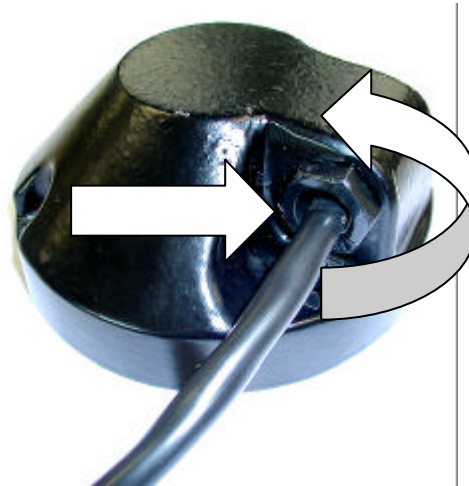

Fig. 14. Removal of lead and cable gland.
- Unscrew the cable gland from bottom cover casting (2) and withdraw plug lead (24) complete with gland assembly. See **Fig. 14**.